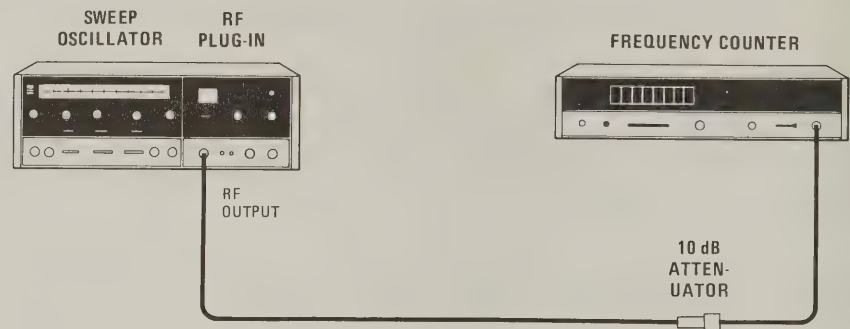

Figure 4-2. ΔF Sweep Test Setup
- a. Connect equipment as shown in Figure 4-2.